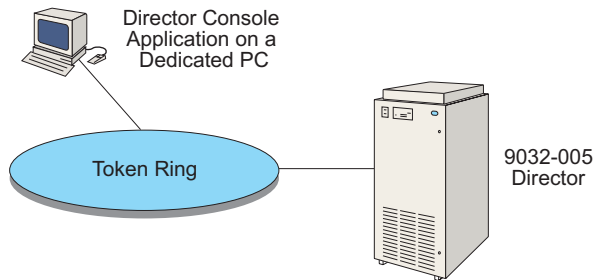

Figure 1-4. Director Console Application on a Dedicated PC
- A dedicated IBM PC supplied with the Director. This platform provides the hardware and software required to connect the PC to a Token-Ring LAN, perform Win-OS/2 administrative tasks, and operate the Director Console application. This platform configuration is shown in Figure 1-4.